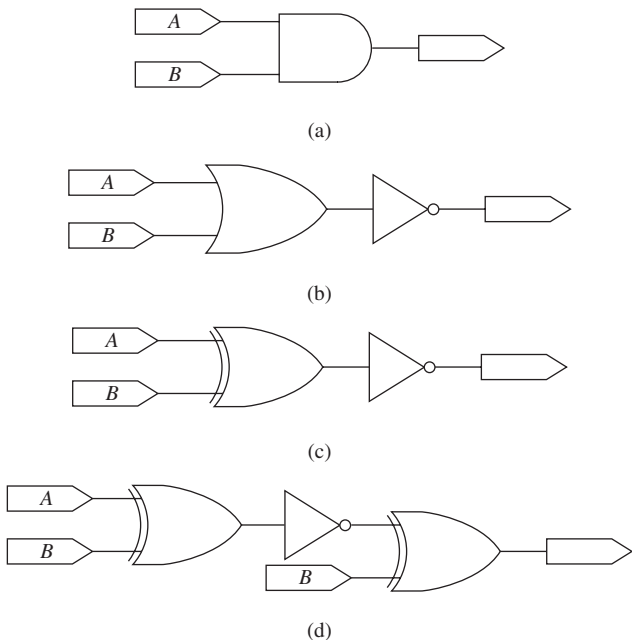

FIGURE P10.45 Circuit for Problem 10.45.
10.45 (A)* If $A = 0, B = 1$, which circuit as shown in Figure P10.45 will output 1?
- 10.71 (B)* If $A = 0$ and $B = 1$, use PSpice to find the logic circuit which generates an output of 1 in Figure P10.45.